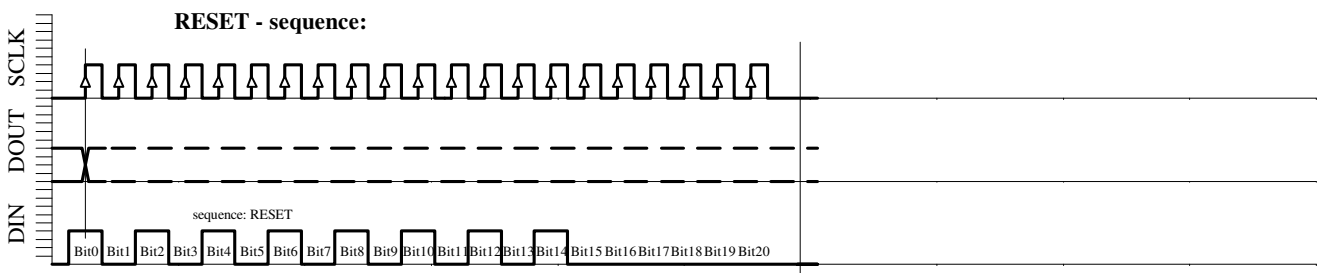

Fig. 6e: RESET sequence (21-Bit)
- RESET sequence (Figure 6e)
The RESET sequence is special as its unique pattern is recognized by the module in any state. By consequence it can be used to restart if synchronization between the microcontroller and the MS5534A (RoHS) has been lost. This sequence is 21-Bit long. The DOUT signal might change during that sequence (see Fig. 6e). **It is recommended to send the RESET sequence before each CONVERSION sequence to avoid hanging up the protocol permanently in case of electrical interference.**